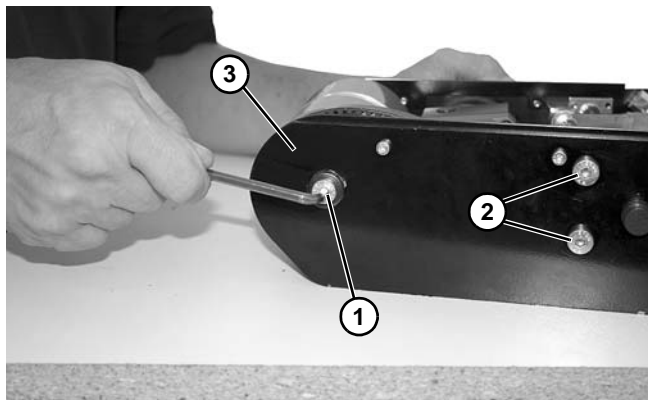

Figure 140
8. Remove socket head screw (**Figure 140, item 1**) and washer from both sides of the conveyor.
9. Remove socket head screws (**Figure 140, item 2**) on timing belt side. Remove plate (**Figure 140, item 3**).